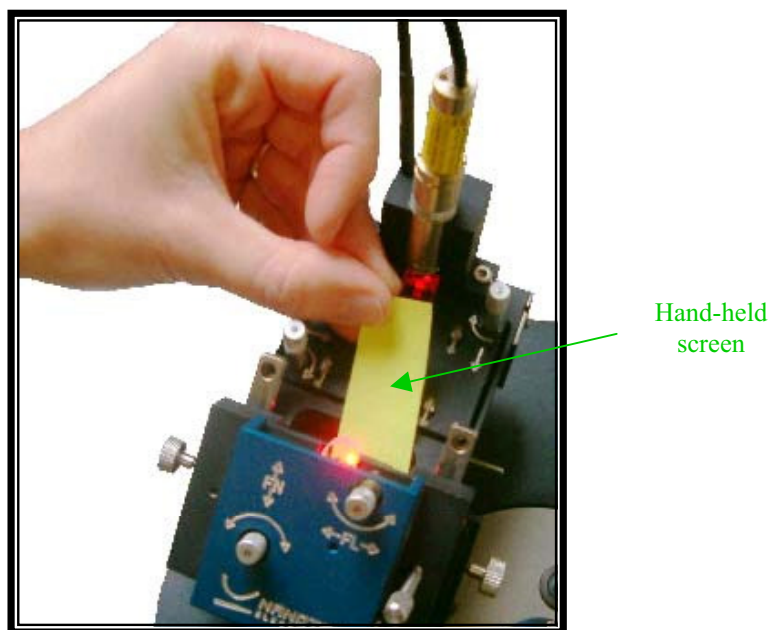

Fig. 4.7
- To make the final adjustment, you can use a little piece of paper (Hand-held screen), placed as shown in Fig.4.7 to visualize the diffraction pattern. Move the laser perpendicular to the cantilever length (use screw #2) until it is positioned in the middle of the cantilever (diffraction pattern with maximum intensity). Then move the laser beam along the cantilever length (use screw #1) until the spot is at the edge of the cantilever (you will notice that because the diffraction pattern gets distorted, with 'rings' appearing in addition to the maximum).